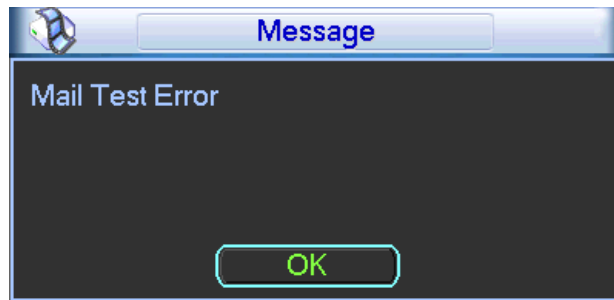

Figure 3-31
- Interval: Please check the above box to enable this function and then set the corresponding interval. System can send out the email regularly as you set here. Click the Test button, you can see the corresponding dialogue box to see the email connection is OK or not. See Figure 3-31.